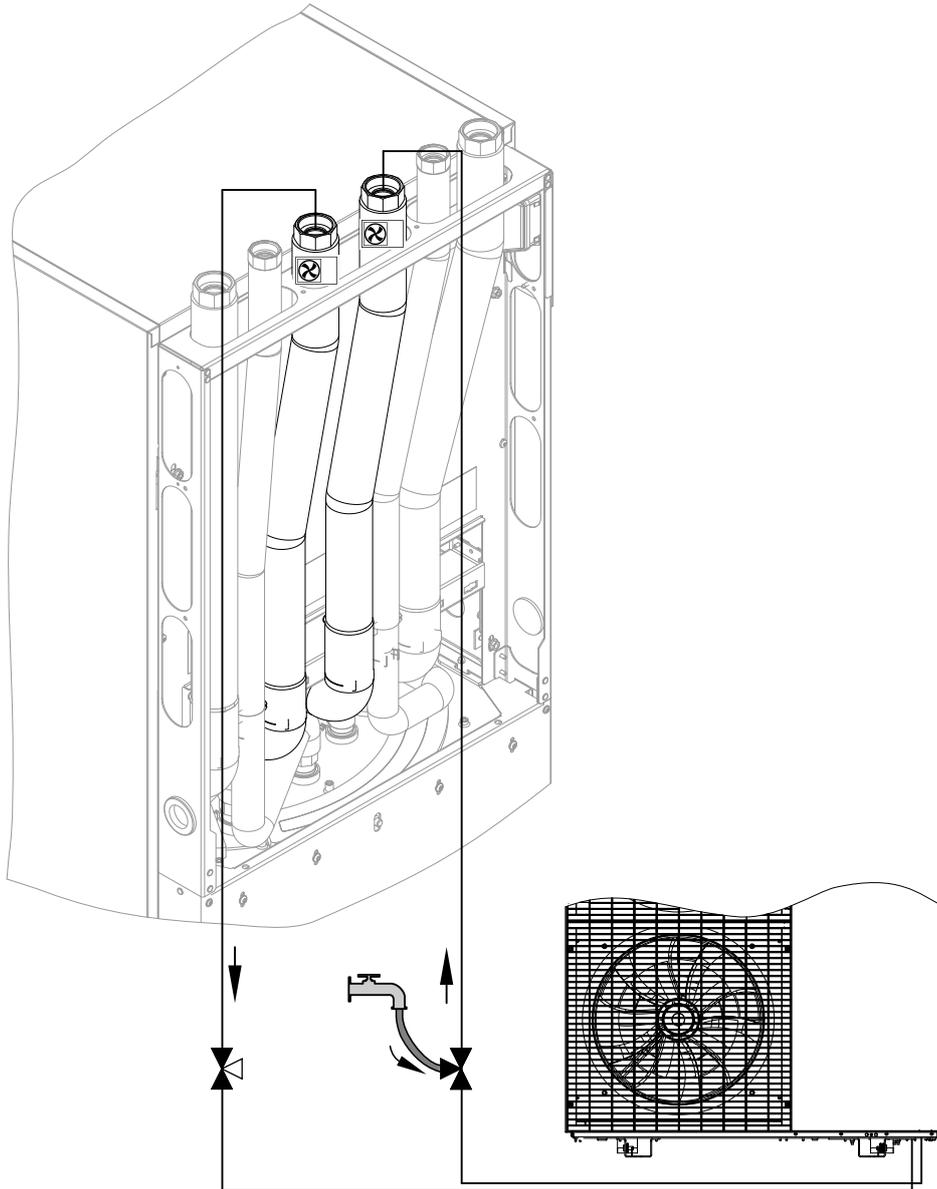

Fig. 69
2. Open the 3-way ball valve of the outdoor unit flow (indoor unit heating water inlet) as shown in Fig. 69: **Open in all directions**
3. Open the 3-way ball valve to the outdoor unit return (indoor unit heating water outlet): See Fig. 69.